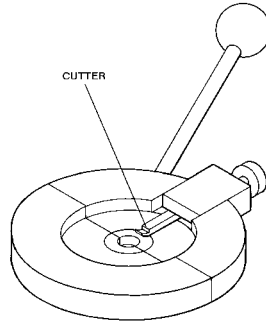

Figure 303. Pressure Gauge Weld-Machining Tool
- (1) Loosen the set screws and move the two halves of the pressure gauge weld-machining-tool (Figure 303) apart.
- (2) Put the two halves of the of the tool around the pressure gauge and the fitting. Tighten the set screws.
- (3) Adjust the cutter with the thumbscrew on the tool until the cutter touches the weld area of the gauge and fitting flanges.
- (4) Carefully cut the weld around the flange until the weld joint is broken. Do not let the cutter go more than 0.040 in. (0.102 cm) into the weld joint.